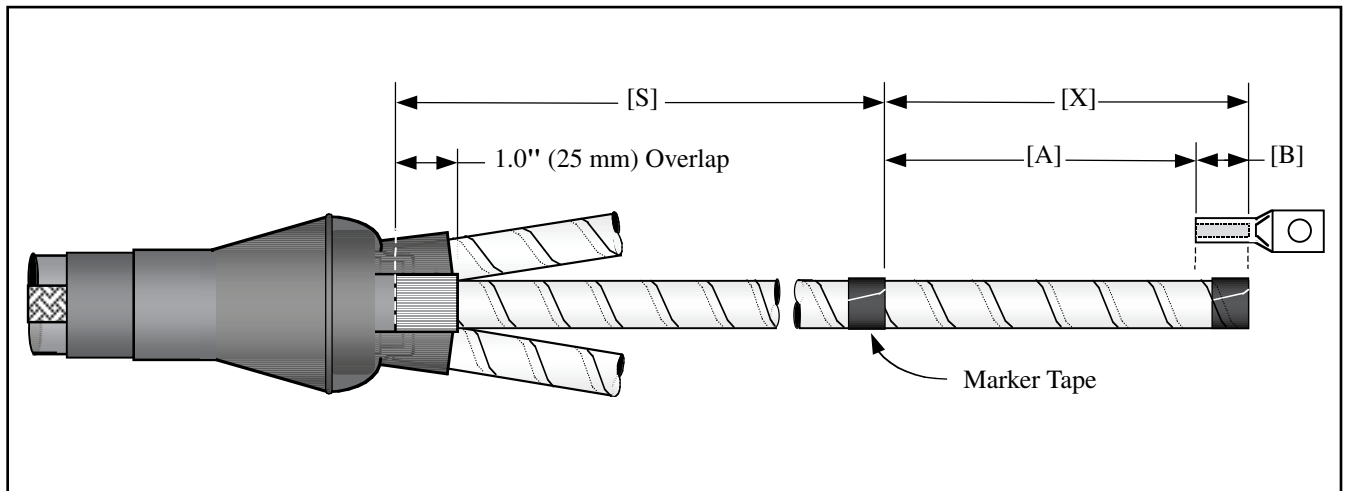

Figure 14
4.1 From the chart below, determine the correct [A] dimension (Figure 14) for the termination being installed.
4.2 Place a vinyl tape marker on each cable phase leg at dimension [X] (Figure 14).
4.3 Determine required re-jacketing sleeve length for each phase leg (Distance [S], Figure 14). Be sure to include 1.0" (25 mm) breakout boot finger overlap in measurement.